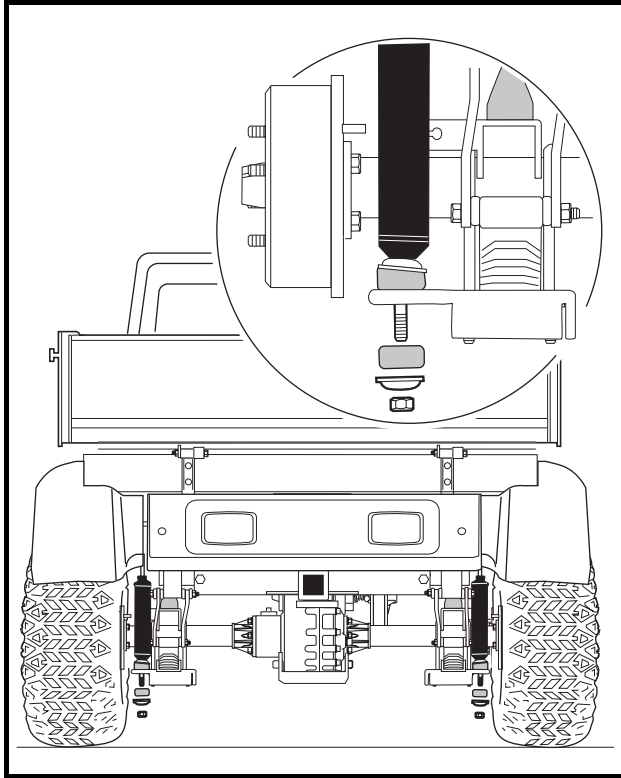

Figure 16-44 Shock Absorber
18. Position shocks in the shock mounts and install cushions, mounting washers and nuts and tighten until cushions expand to be the same diameter as the mounting washers (**Figure 16-44, Page 16-18**).